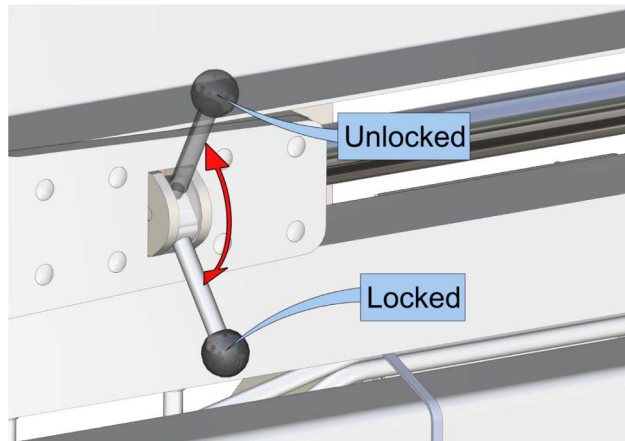

Fig 2.4 Lock Lever Positions
- Move the 2 levers, located on the top and bottom of left hand slide mechanism, to the unlocked position as seen in Fig 2.4.
- Move the 2 levers, located at the top and bottom of left hand slide mechanism, to locked position as seen in Fig 2.4.